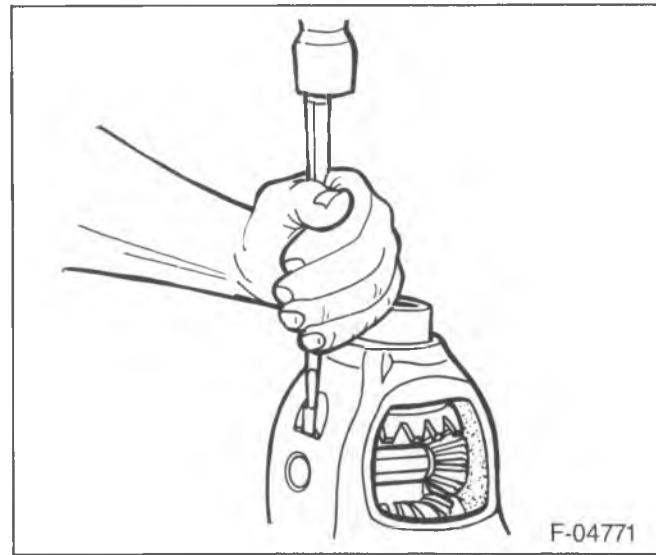
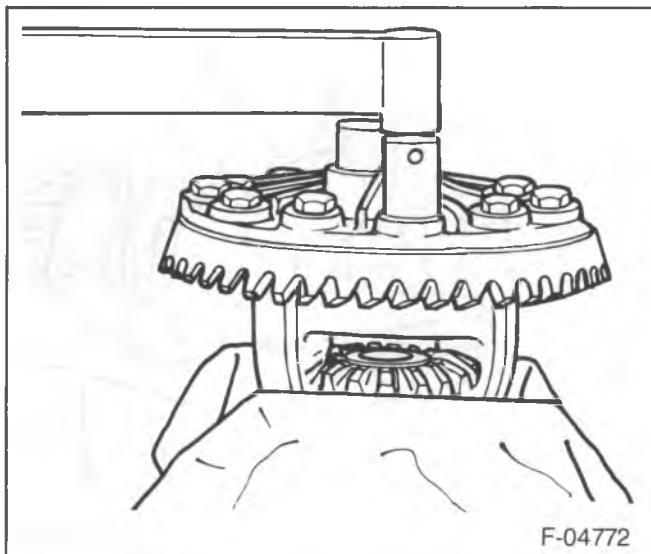

Figure 19—Installing the Lock Pin
Figure 20—Installing the Ring Gear Bolts
- Pinion gears (24) to the differential without the thrust washers (26).
- New pinion thrust washers (26).
- Pinion shaft (28).
- Lock pin (29) (figure 19).
- Ring gear (2) to the differential case (22).
- New ring gear bolts (23) (figure 20).